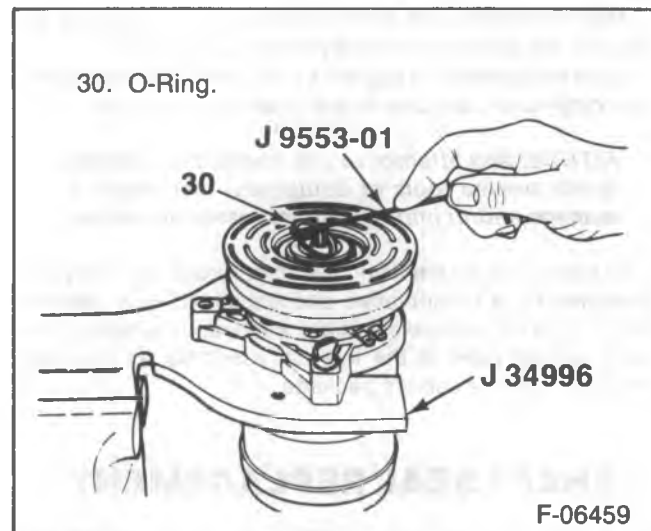

Figure 23—Removing the Shaft Seal Seat O-Ring
3. Shaft lip seal using J 23128-A (figure 23).